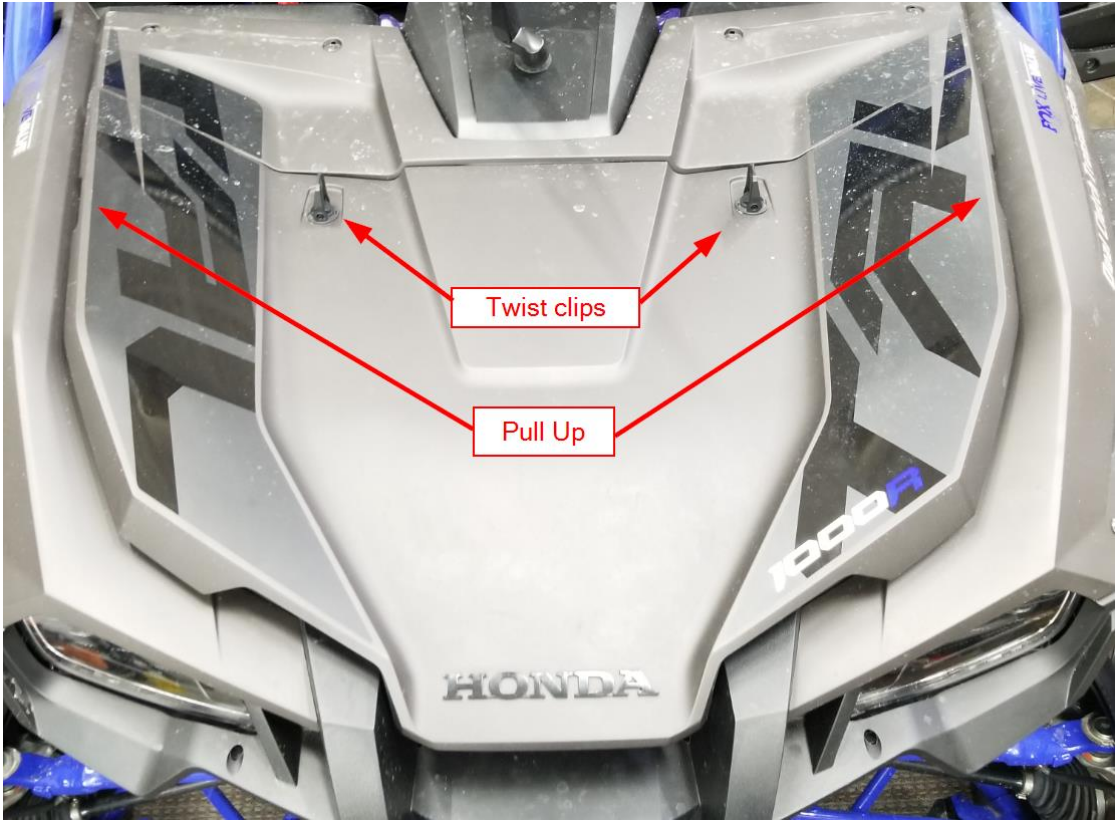

Figure 1
- c. Remove the front hood using the twist locks shown in Figure 1. Pull upward forcefully on the sides.